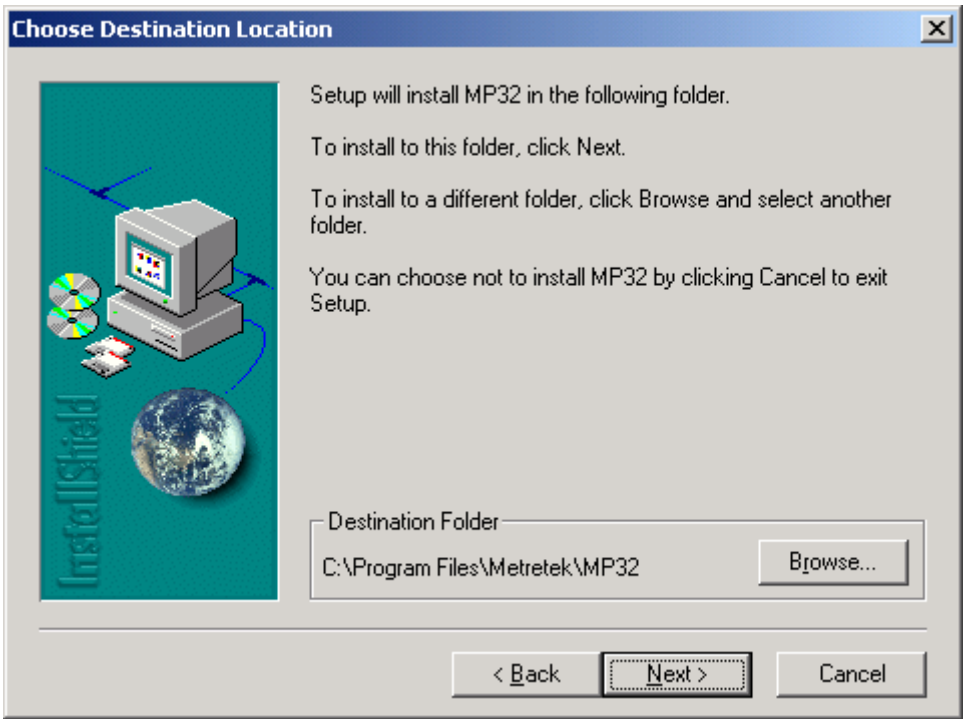

Figure 8 – MP32 Installation - Choose Desired Location
4. Figure 8. Choose Destination Location - You can choose a destination other than the default location by clicking the <Browse> button and selecting an alternate location for the program. Click <Next> to continue.